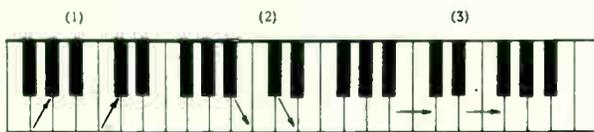

Figure 1.
Figure 1. Screening a Stratocaster pickup: a) brass shim wound round the coil; b) earth connection; c) tape over the coil wires to prevent damage by the shim; d) screening braid held in place by heat-shrink sleeving (e).
A SEMITONE DISTANCE occurs between WHITE to BLACK notes (1), BLACK to WHITE notes (2) and WHITE to WHITE notes (3). (See Figure 1.)